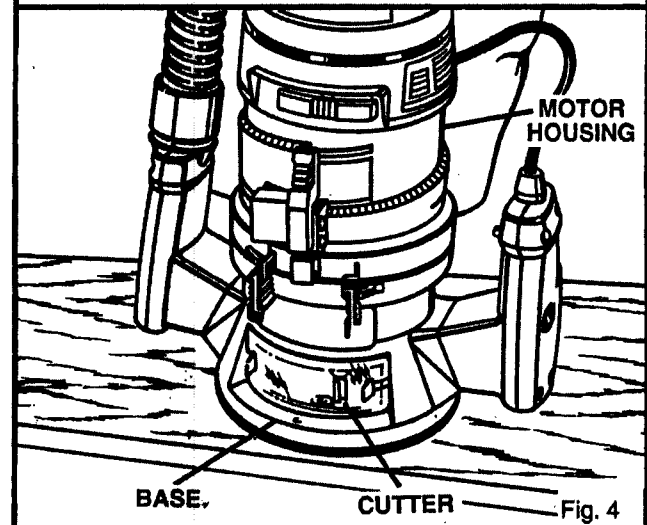

Fig. 4
3. Turn the depth adjusting ring until tip of cutter touches flat surface. See Figure 4.